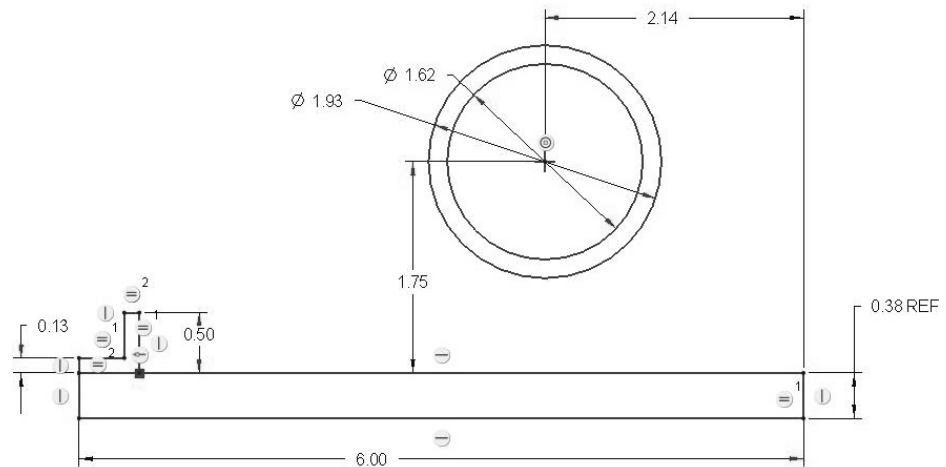

Figure 3-51 Initial Layout
- Step 7:**  Select the **Center and Point Circle** tool. Move the cursor to the approximate center of the circles, then *press* the LMB. Move the cursor away from this point, thus increasing the size of the circle. When the circle appears approximately the correct size, *push* the LMB again. Draw two concentric circles near the right end of the base rectangle as shown in Figure 3-51. Don't worry about the circles' diameters.
- Step 8:** Your sketch should look similar to the one pictured in Figure 3-51, although the dimension locations and values may be different. The two shorter lines of the "L-shape" should be labeled with =². The two longer lines of the angle tab and the thickness of the plate should be labeled with =¹. The numbers 1 and 2 may be reversed.